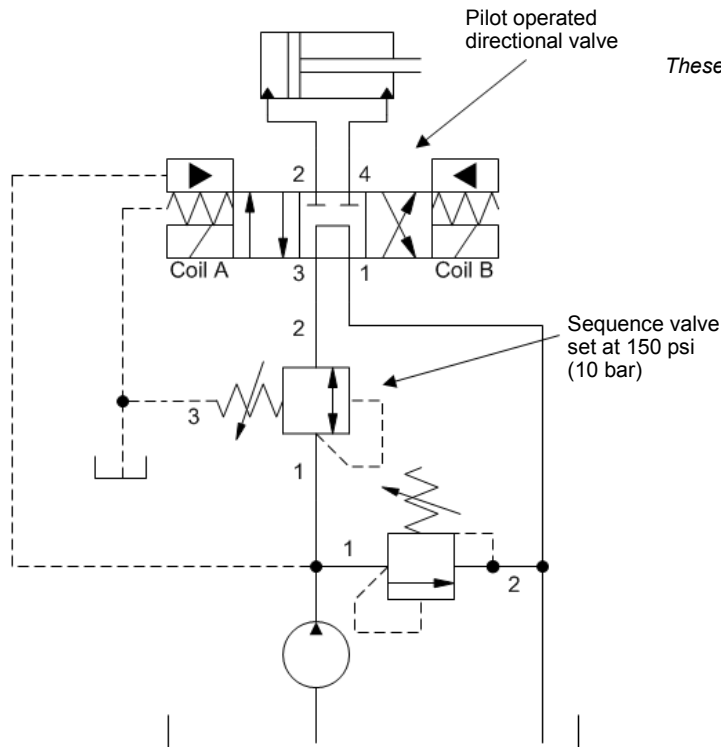

Figure 1.
- Another application would be to maintain a minimum “pilot pressure” in an open flow circuit. (Unlike a relief valve, the “full open” feature of a sequence valve, above its setting, tends to eliminate parasitic losses in the system at working pressures. (See Figure 1 on page 2.)